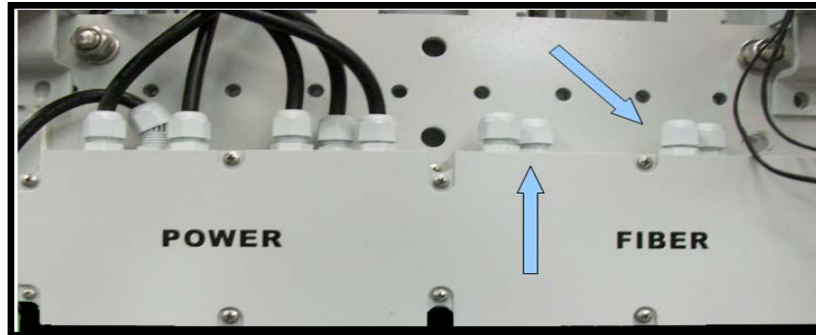

Figure 4-8. Junction Box
2. Route the free end of the drop cable to the enclosure through the junction box as shown in **Figure 4-8**.